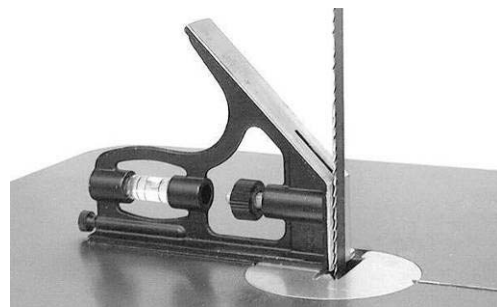

Figure 7
3. Use a square placed on the table and against the blade (Figure 7) to see if the table is 90 degrees to the blade.